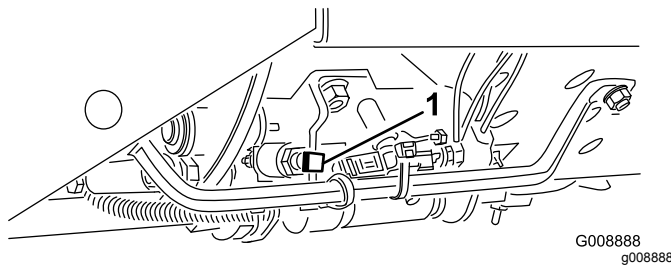

Figure 32
**Important:** The mow speed is set at the factory to 9.7 km/h (6 mph). It can be increased or decreased by adjusting the speed stop screw (Figure 32).